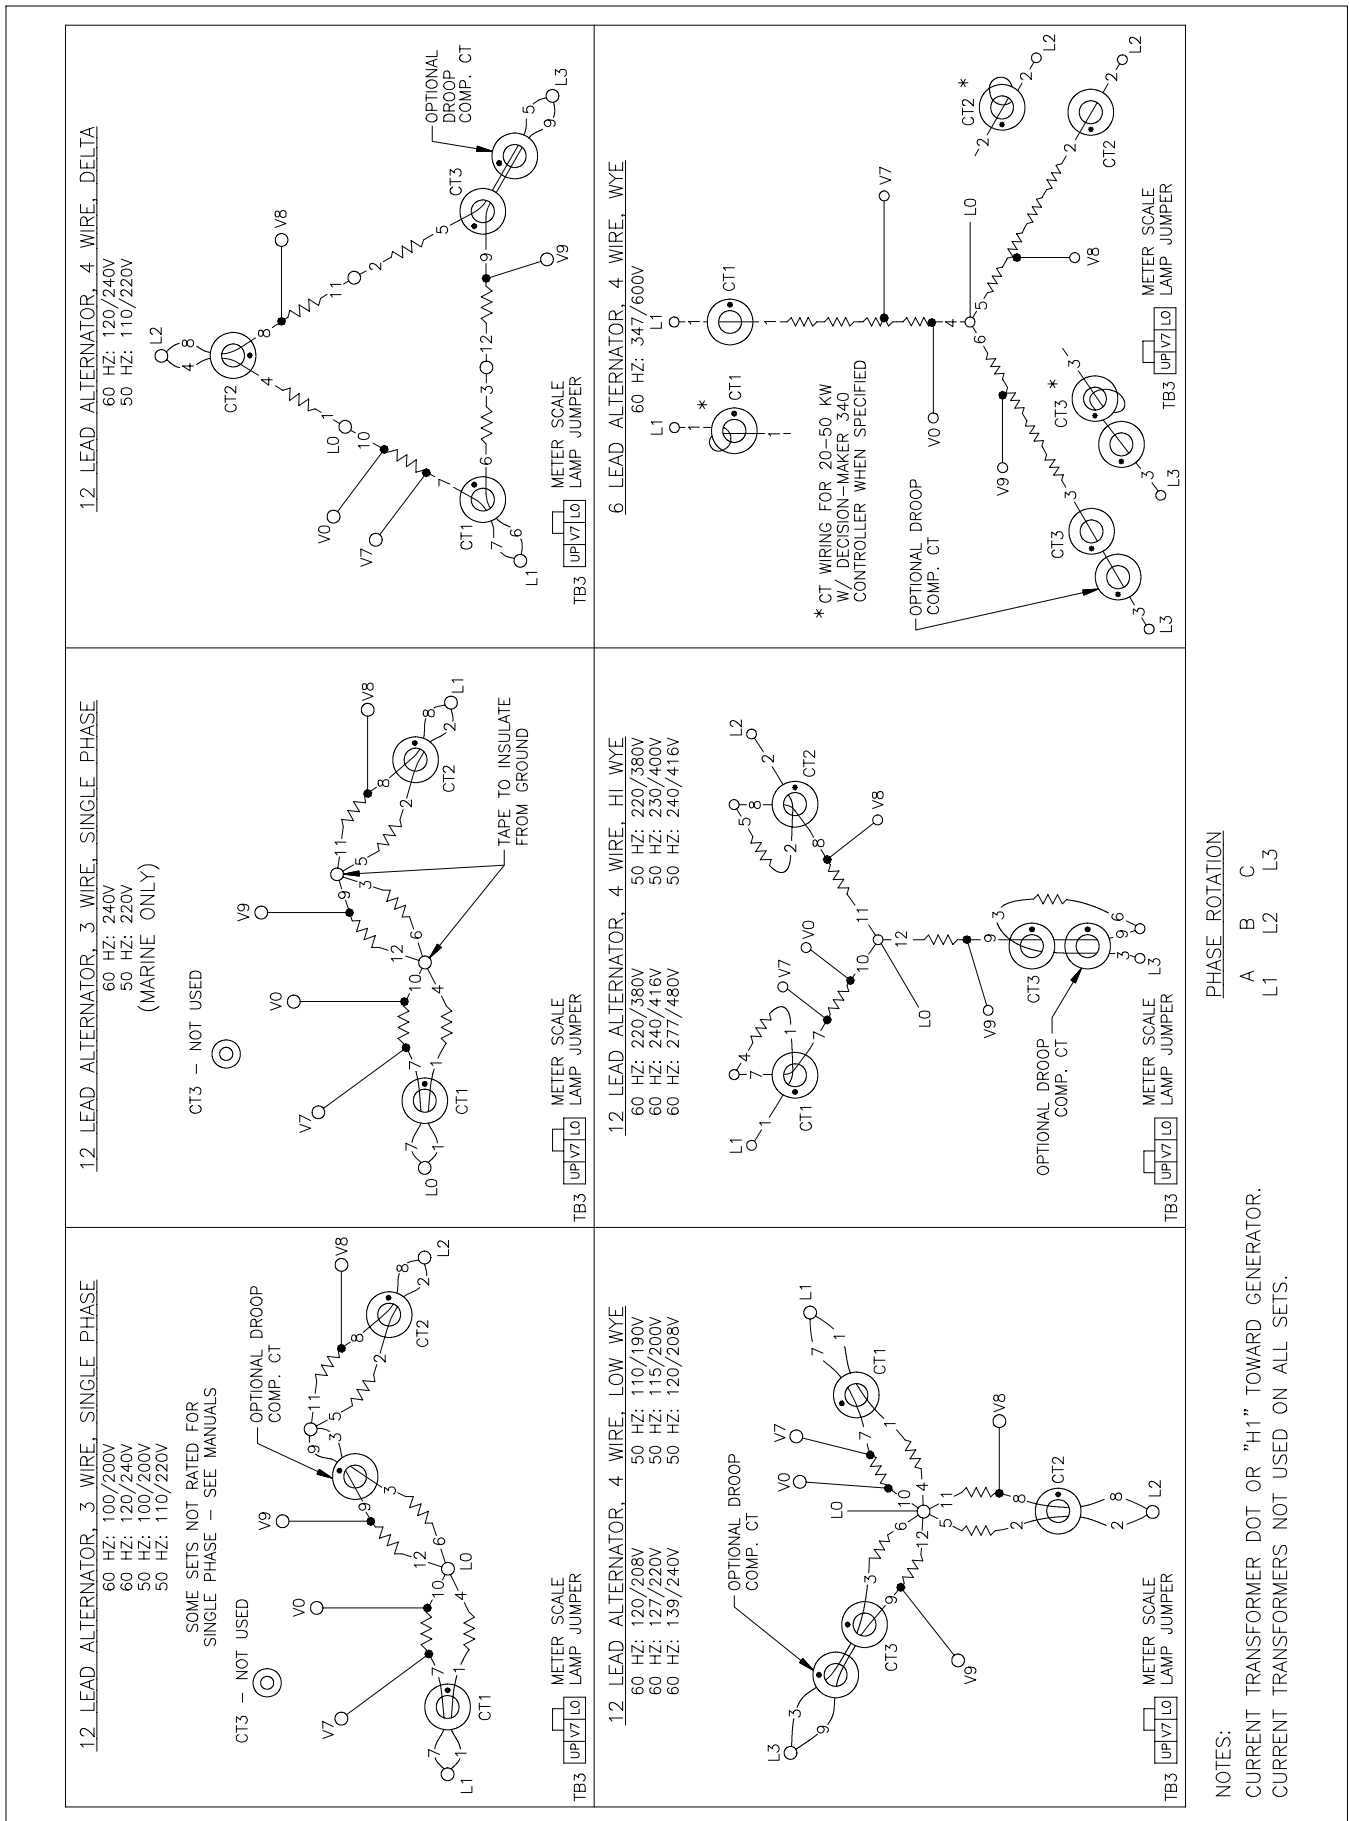
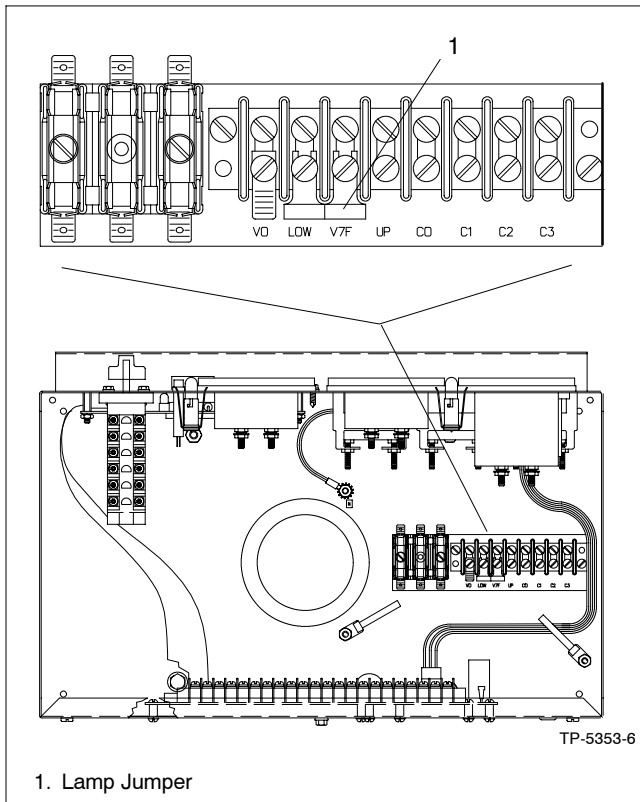

Figure 5-2 20-300 kW Permanent Magnet and 20-60 kW Wound Field Alternators, ADV-5875B-H
Figure 5-5 Meter Scale Lamp Jumper
Reconnect the generator set stator leads to change the output phase or voltage. Refer to the following procedure and the connection schematics shown in Figure 5-1, Figure 5-2, Figure 5-3, and Figure 5-4. Follow the safety precautions at the front of this manual and in the text and observe National Electrical Code (NEC) guidelines.
3. Use Figure 5-1, Figure 5-2, Figure 5-3, and Figure 5-4 to determine the generator set voltage configuration. Note the original voltage and reconnect as needed. Route leads through current transformers (CTs) and connect them according to the diagram for desired phase and voltage.
- Remove the controller cover and reposition the meter scale lamp jumper (see Figure 5-5) to match the position for desired voltage (shown in Figure 5-1, Figure 5-2, Figure 5-3, and Figure 5-4). Replace the controller cover.